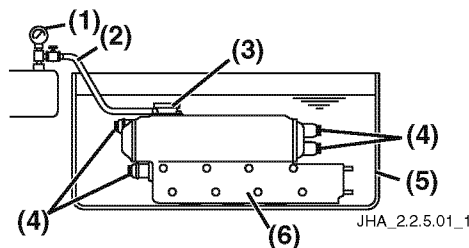

Figure 4-41
2. Submerge the heat exchanger (Figure 4-41, (6)) in a water tank and feed compressed air into the heat exchanger through the overflow pipe.